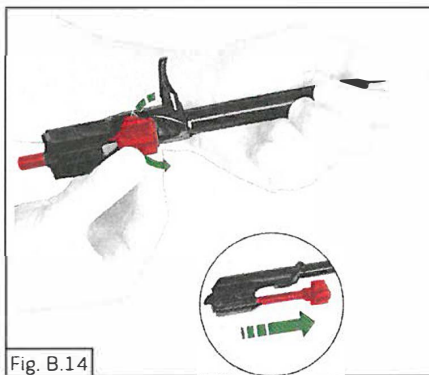

Fig. B.14
- detach the bolt from the bolt carrier. Hold the bolt carrier group with the left hand, turn the bolt head with the right hand counterclockwise so that the bolt lug disengages from the carrier shaped slot. Detach the bolt from the carrier channel as shown in Fig. B.14;